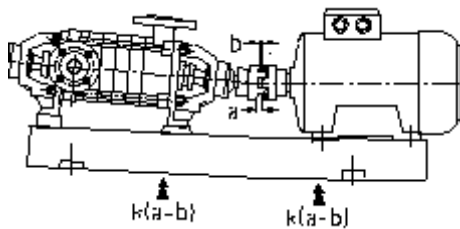
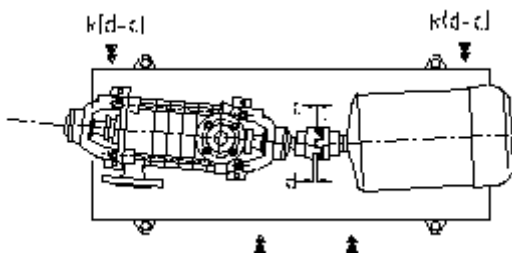

Figure 12: Angular Misalignment in Vertical Plane and Its Correction (OMK)
Figure 14: Angular Misalignment in Horizontal Plane and Its Correction (OMK)
2. Angular Misalignment (Figure 12 – Figure 14)